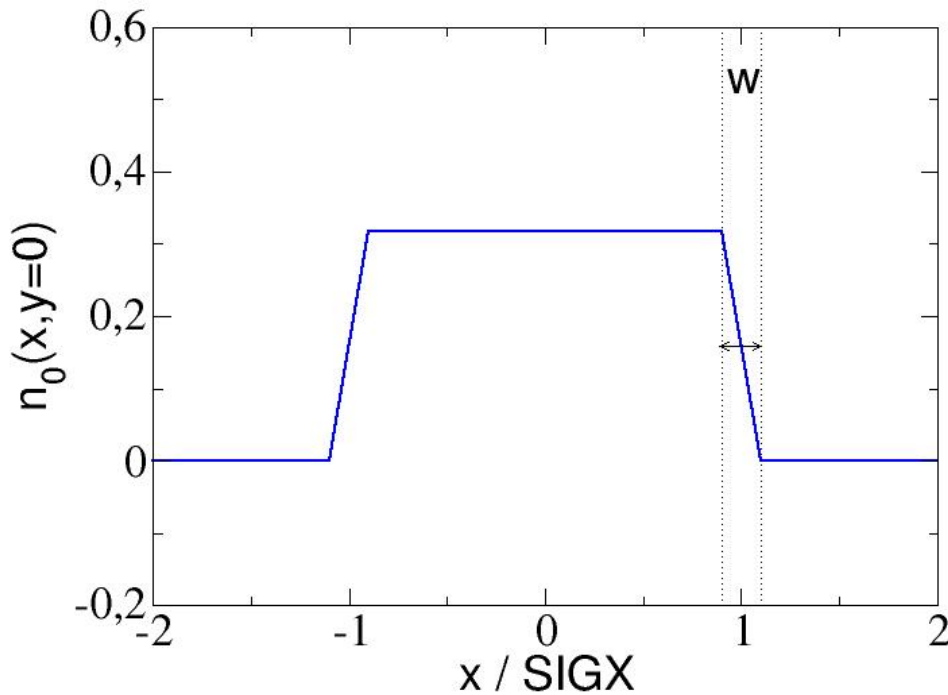

Figure 10.2: Trapezoidal shape of radial density for beam-beam lens.
- BBSHAPE=2: trapezoidal shape (see fig.10.2), SIGX, SIGY: half width of density profile, i.e. distance from the centre to half edge region with linear decrease of density in horizontal, vertical direction. Still only circular opposite beam possible, i.e. in the calculations  $SIGX' = SIGY' = (SIGX + SIGY) / 2$  is used, if SIGX and SIGY have different values.